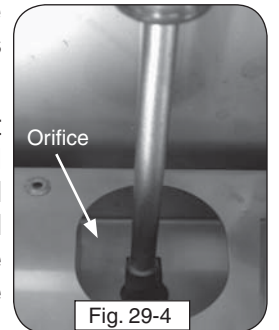

Fig. 29-4
5. Use a  $\frac{3}{8}$ " hex nut driver to remove the exposed orifice (Fig. 29-4) and replace it with the correct orifice for the new gas. (See Table 1 at the beginning of this document for orifice sizes.)